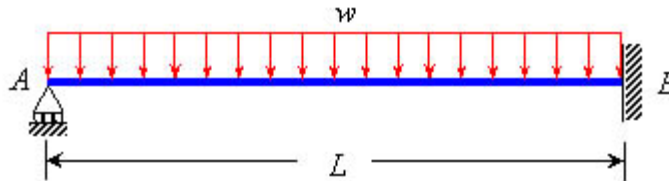

Figure T5.1
**T5.1** Determine the support reactions of the propped cantilever beam as shown in Figure T5.1. Use moment area method and verify by conjugate beam method.